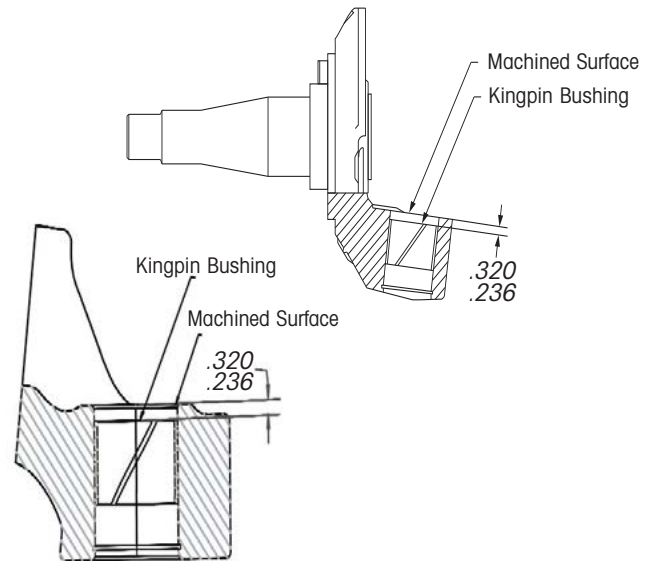

Figure 34.
3. Install the kingpin bushing from the machined side (axle side) of the backbone using a bushing driver. Press in bushing to a depth of no less than $15/64"$ (.236") or 6 millimeters and no more than $5/16"$ (.32") or 8 millimeters. (See Figures 34 and 35)